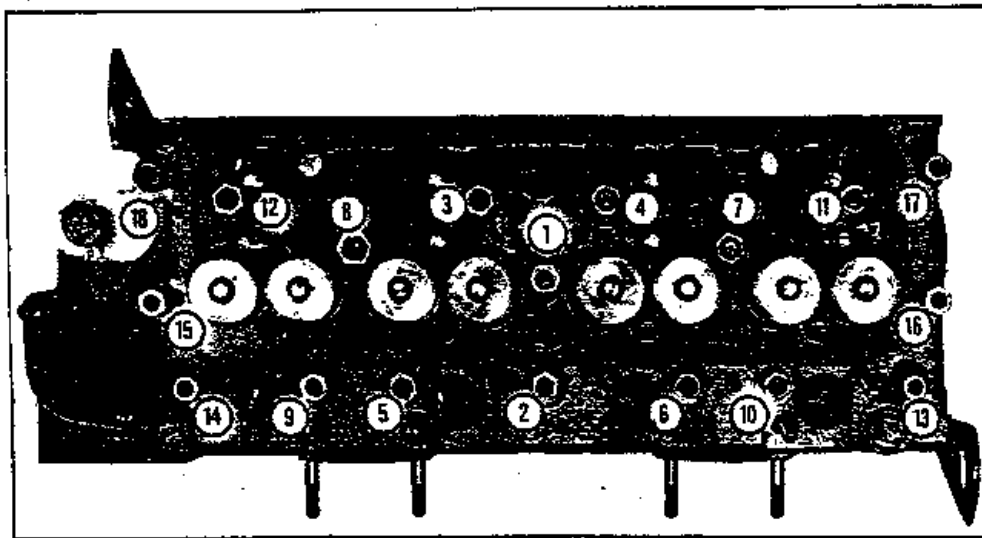

Fig. C-1 - Torque Tightening Sequence for Cylinder Head Nuts
2. Remove the rocker assembly; tighten the cylinder head nuts in the correct sequence (see fig. C-1) and to the correct torque of 55/60 lbf ft (7.6/8.3 kgf m).